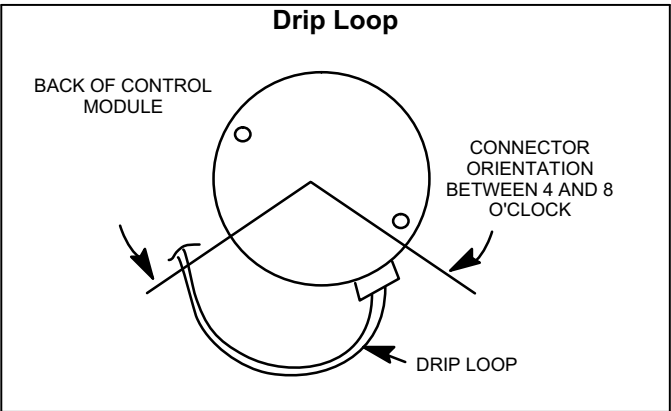

FIGURE 12
- 5. The electrical connectors of the motor should be facing down to form a drip loop (figure12). This will directs moisture away from the motor and its electric connections on the motor.